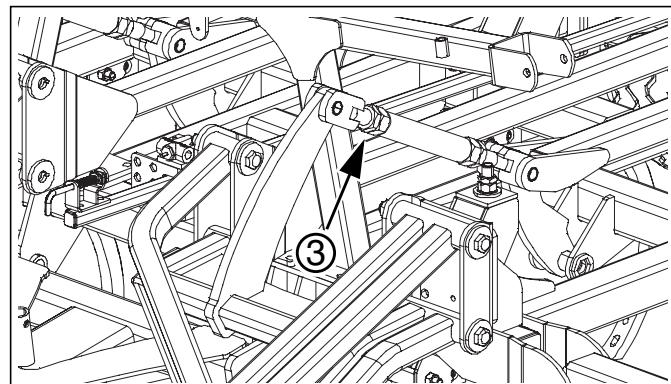

Figure 8
*Refer to Figure 8*
10. Loosen the jam nut ③ and adjust turnbuckle on the gauge wheels to level it from front to back. (Shorten to bring front down, extend to bring front up). Level machine with the front row shanks just slightly deeper or lower than the back.
11. Retighten the jam nut ③.